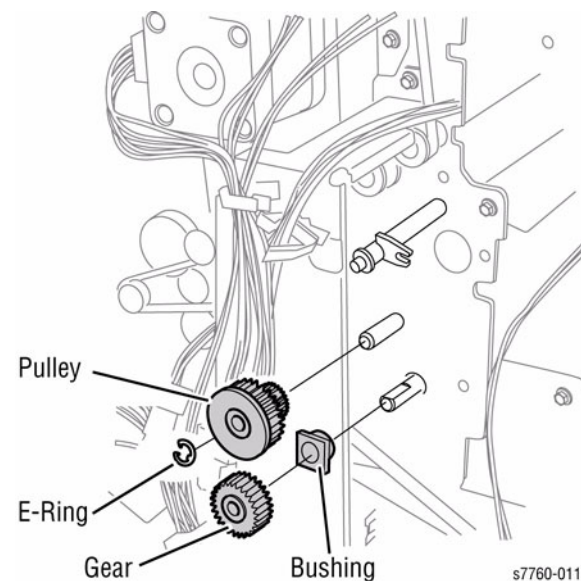

Figure 2 Removing Pulley and Gear
3. Removing the Pulley and Gear (Figure 2).